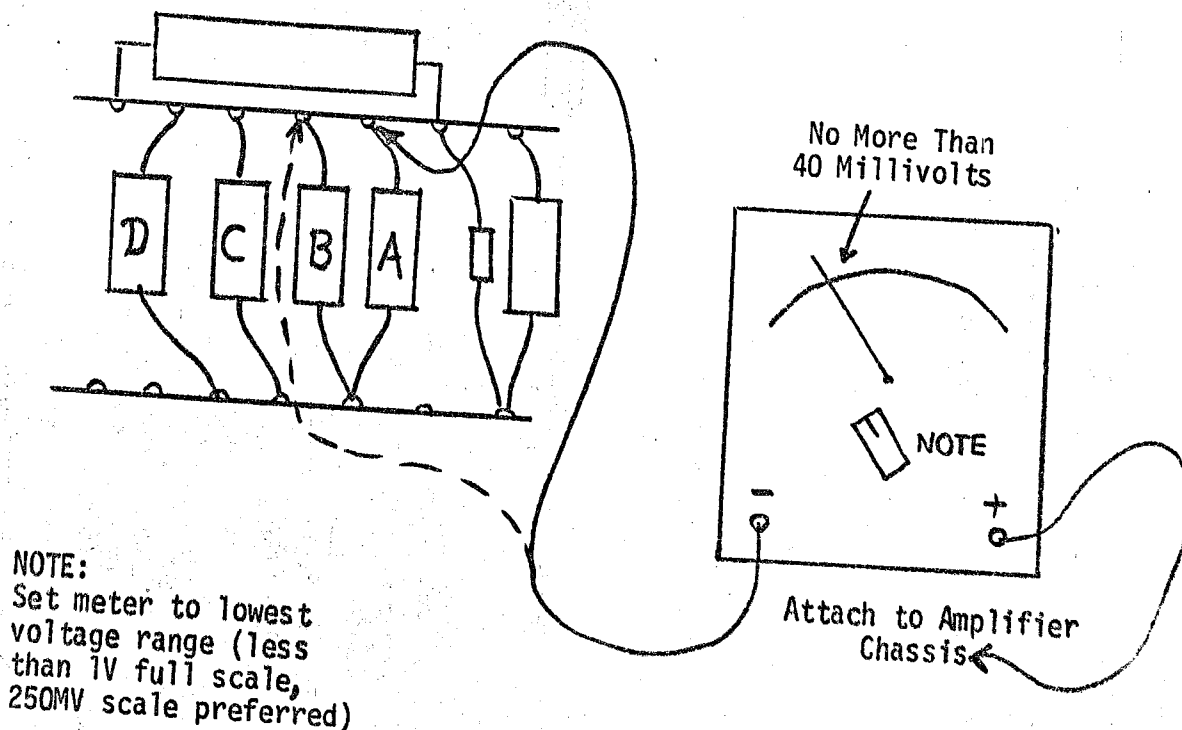

FIG. 8
- STEP (3) A signal that results in sufficient output to the loudspeakers will make the "limiter" bulb glow dimly in accordance with the variations in that signal. The output of the amplifier as heard through the loudspeakers should be nearly without distortion. If this is the case, the amplifier can now be powered "directly" (plug directly into wall receptacle or install in a phonograph).
- STEP (4) Before playing any music through the amplifier allow it to stabilize for about 10 minutes. With no signals applied, adjust R5121 mentioned in Step (1) so that a voltage of no more than 40mV ( $=40/1000$ ) of a volt) is read across resistors A and B of Figure 4A. The control R5121 on the left channel voltage board adjusts voltage across resistor A, and the control R5121 on the right channel voltage amplifier board adjusts the voltage across resistor B. R5121 on the right channel voltage amplifier board is accessible through a hole in the intercircuit board. Measurements across resistors A and B are made as shown in Figure 8 (also refer to Figure 4A for component location).